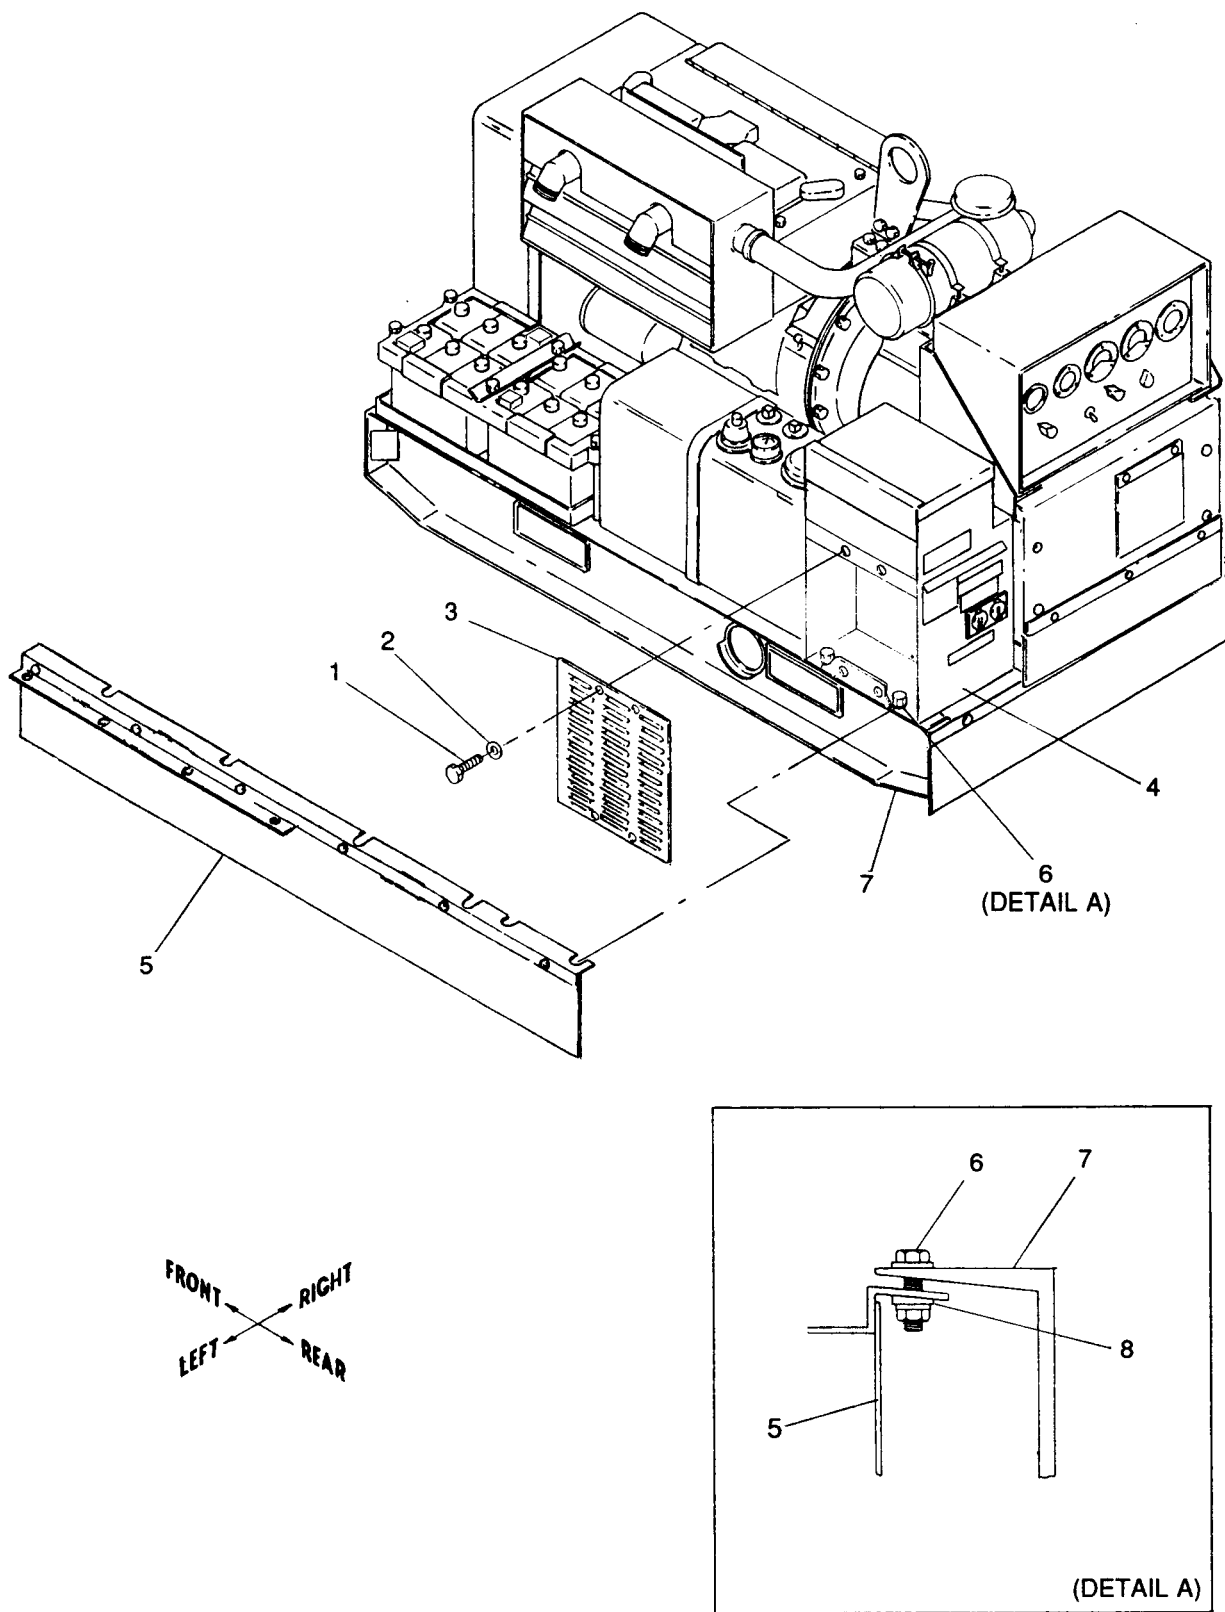

Figure 10-3. Installation of Left Support Assembly
(1) Refer to figure 10-3 to remove four screws (1) and lockwashers (2) securing access plate (3) to AC output control box assembly (4).
(2) Cut a 61 in. length of adhesive backed teflon tape (as listed in Table 10-1, item 2). Apply adhesive backed teflon tape to a clean left support assembly (5) top surface (surface that mounts against underside of support frame). Use hand pressure to remove air bubbles. Clear teflon tape away from screw slots.
(3) Loosen four existing screws (6) and slide left support assembly (5) between skid (7) and bevel washers (8) as shown in figure 10-3, detail A.
(4) Torque four existing screws (6) to 26 \pm 2 ft-lbs dry.
(5) Refer to figure 10-3 to install four screws (1) and lockwashers (2) which secure access plate (3) to AC output control box assembly (4).